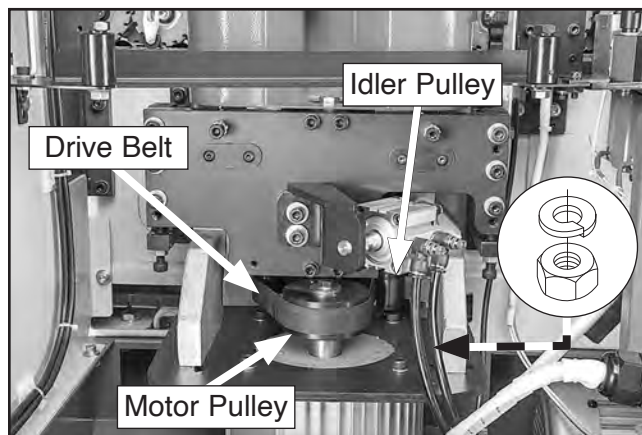

Figure 88. Location of pre-mill belt tensioning components.
4. Loosen hex nut below motor mount plate, securing idler pulley (see **Figure 88**) to release belt tension.